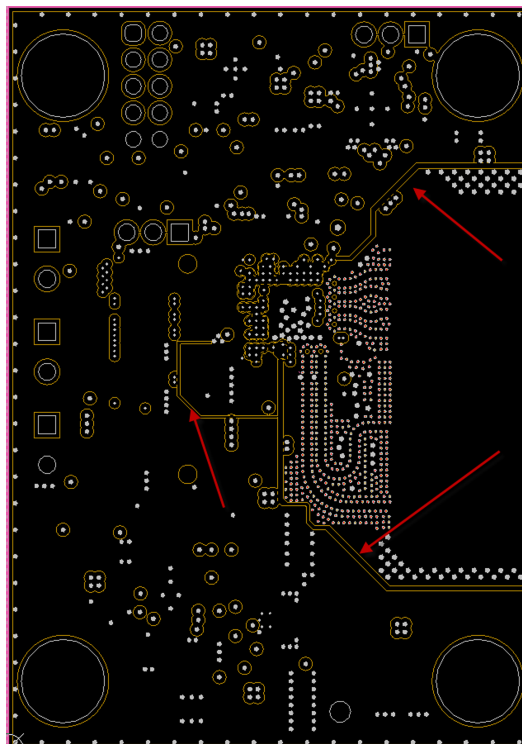

Figure 5. Cuts in Layer 2 Ground Plane
- By providing ground cuts, the designer can reduce the interference of the switching currents for the regulator and the analog currents on the AWR1642 device (see Figure 5). The circuits most vulnerable to ripple are the XTAL lines, VOUT_14SYNTH, VOUT_14APLL, VIN_18VCLK, and VIN_18VCO supplies.